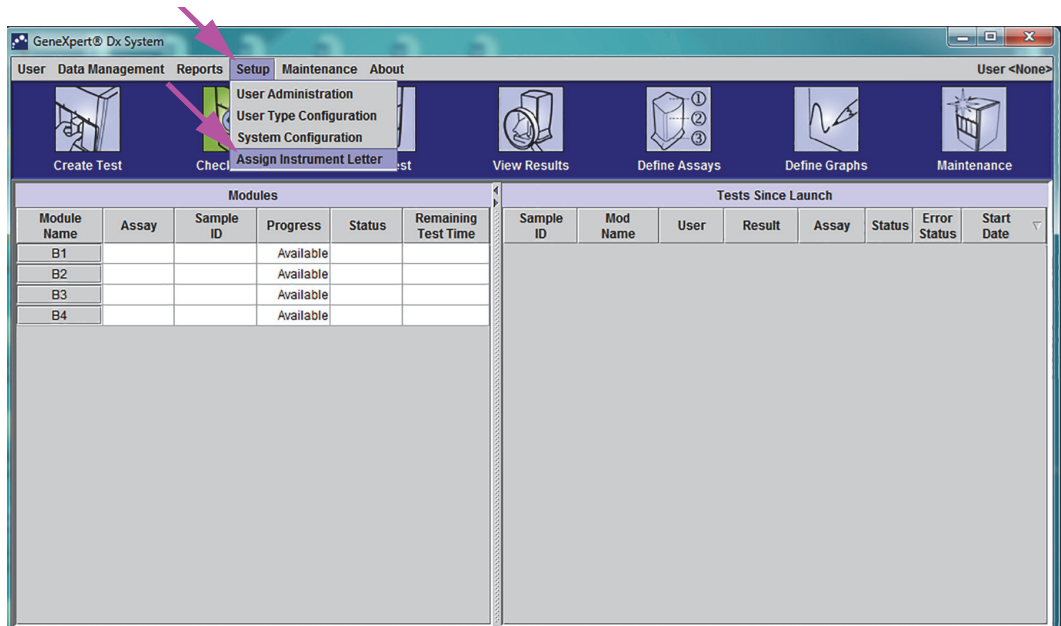
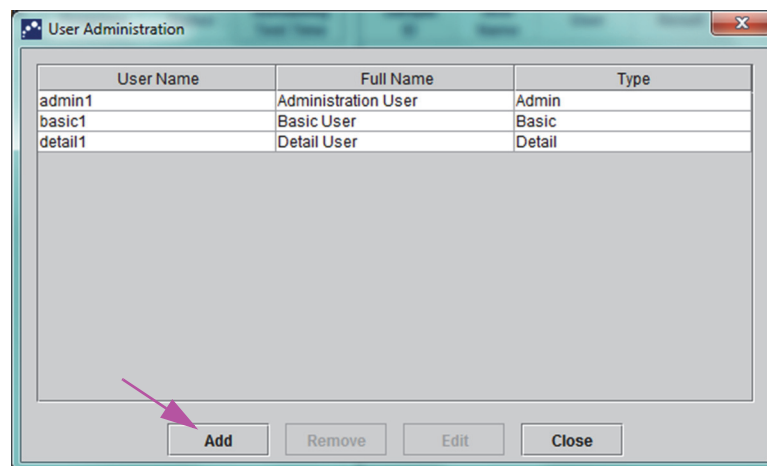

Figure 2-27. GeneXpert Dx System Window, showing the Setup Drop-Down Menu
Figure 2-33. User Administration Dialog Box
- In the GeneXpert Dx System window, click **Setup** in the menu bar, and then select **Assign Instrument Letter**. The Assign Instrument Letter dialog box appears. See Figure 2-27. At the same time, the green LED indicators of four modules that comprise the selected quadrant will flash.
- To add users: In the GeneXpert Dx System window (see Figure 2-27), on the **Setup** menu, click **User Administration**. The User Administration dialog box appears (see Figure 2-33).
1. In the GeneXpert Dx System window (see Figure 2-27), on the Setup menu, click **User Administration**. The User Administration dialog box appears. See Figure 2-33.